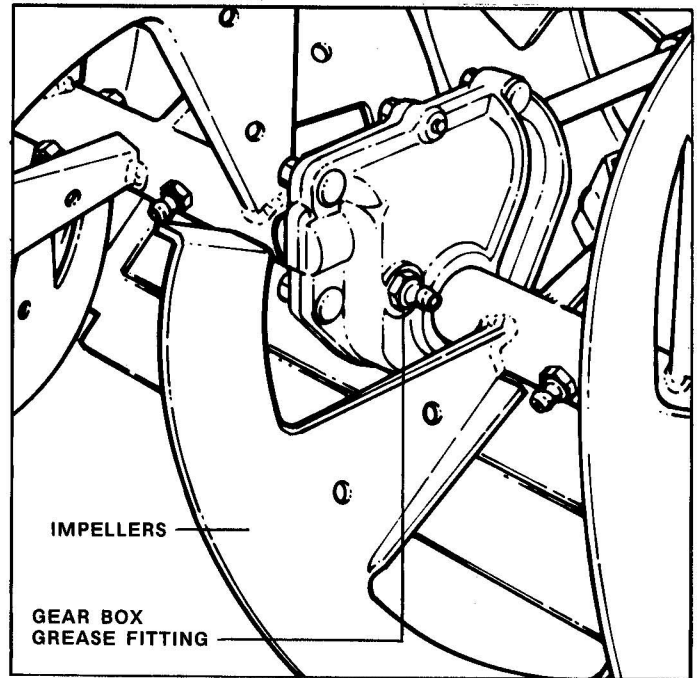

FIGURE 3.2
3.5 GEARBOX LUBRICATION: Grease ONCE EACH YEAR, or more often as required, with 5 shots of SNAPPER "OO" grease. See Figure 3.2.